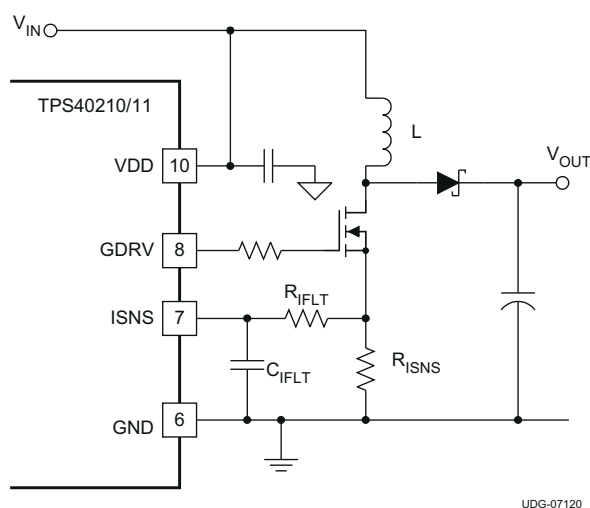

Figure 7-7. Current Sense Components
- $V_D$  is the drop across the diode in Figure 7-7
It is possible to increase the voltage compensation ramp slope by connecting the VDD pin to the output voltage of the converter instead of the input voltage as shown in Figure 7-7. This can help in situations where the converter design calls for a large ripple current value in relation to the desired output current limit setting.
In most cases, a small filter placed on the ISNS pin improves performance of the converter. These are the components  $R_{IFLT}$  and  $C_{IFLT}$  in Figure 7-7. The time constant of this filter should be approximately 10% of the nominal pulse width of the converter. The pulse width can be found using Equation 20.